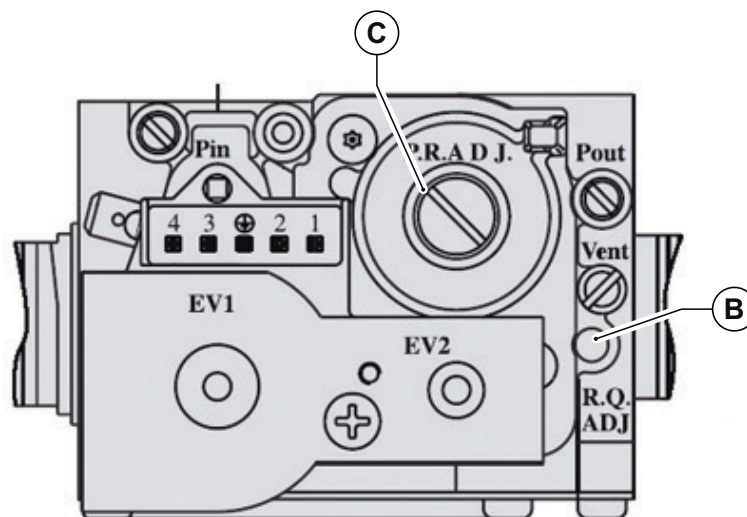

Fig. 40 Adjusting CO2 value
- Set flue gas CO2 content by turning the ratio adjuster **B** (see Fig. 40 Adjusting CO2 value) and ensure that reading falls within the limits of Tab. 31 Flue CO2 content. Let boiler flue cleaning function on and continue with the next point "Minimum heating output adjustment".
- Set flue gas CO2 content by turning the offset control **C** (see Fig. 40 Adjusting CO2 value) and ensure that reading falls within the limits of Tab. 31 Flue CO2 content.